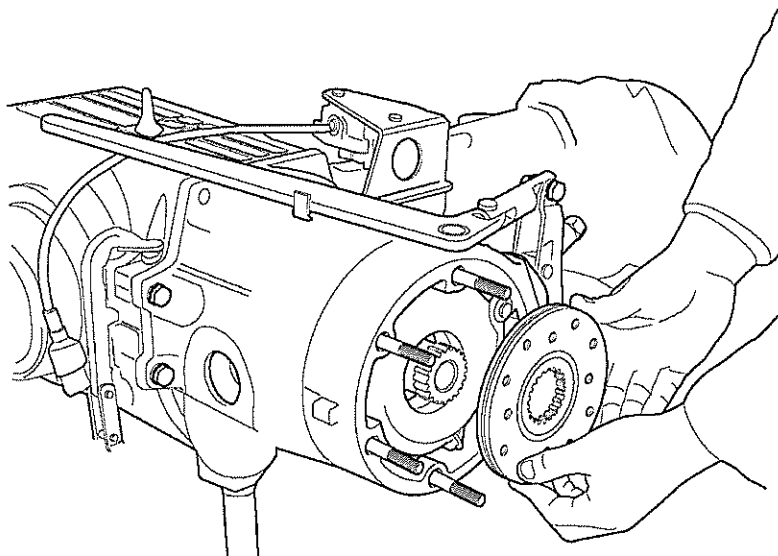

Fig 17 Handbrake disc removal
- 10.9 Detach rear handbrake disc and brake housing (see Fig 17).